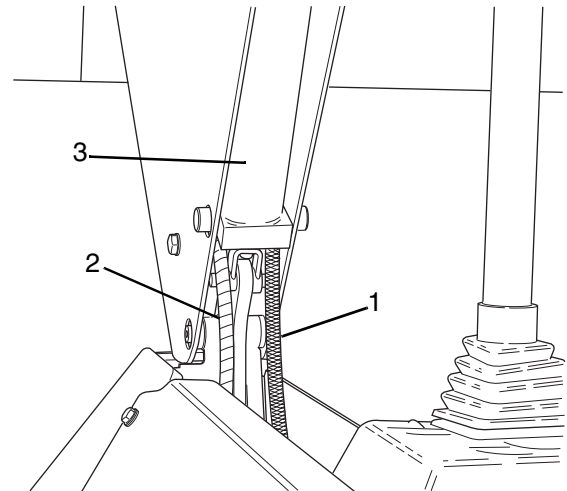

Figure 9-32 Left Harness and Cable Routing
4. Ensure that the wiring harness (Fig. 9-32, 1) and park lock cable (2) are positioned over the top of the left shock (3).